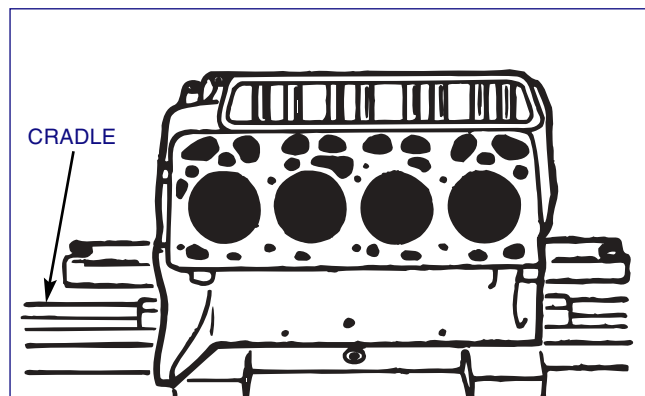

FIGURE 3-24, Position Block
6. Place engine block on riser blocks near center of Cradle (*see Figure 3-24*).